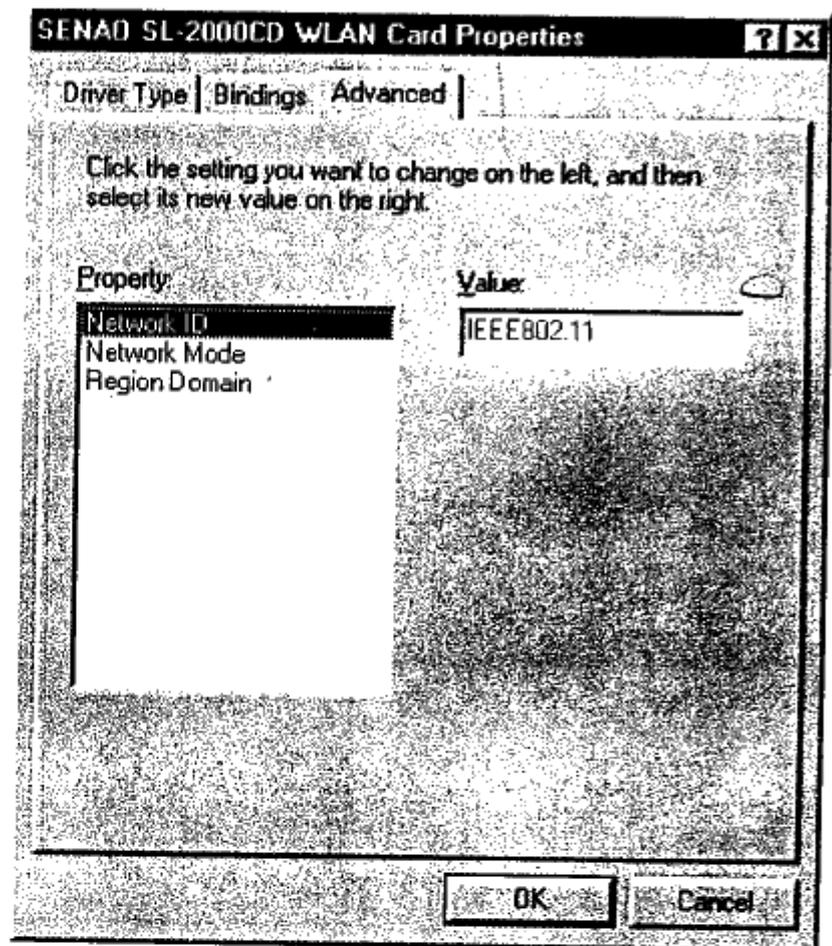

Figure 4-5
5. Select "Advanced" tabs to show "Network ID", "Network Mode", and "Region Domain" properties as shown in Figure 4-5.